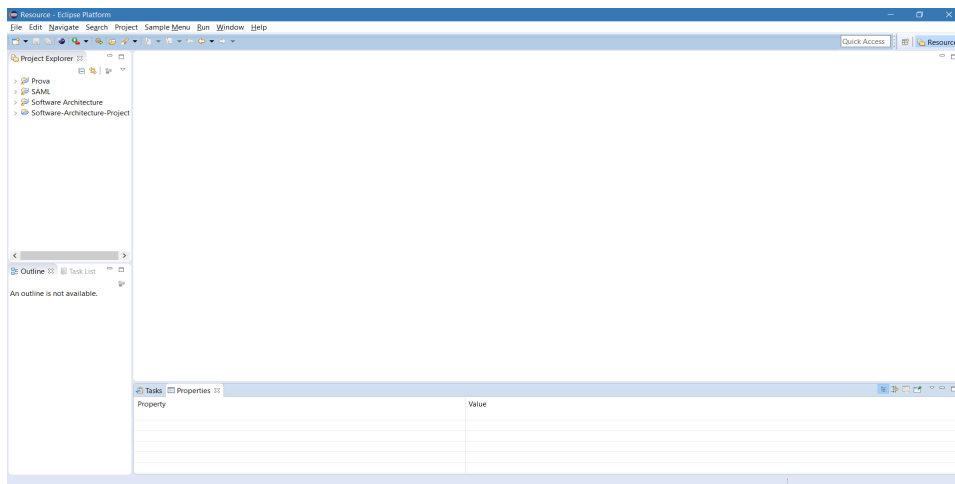

Figure 1.4: Initial screen of the framework
- After a while, you should see something like the screen of the figure 1.4;